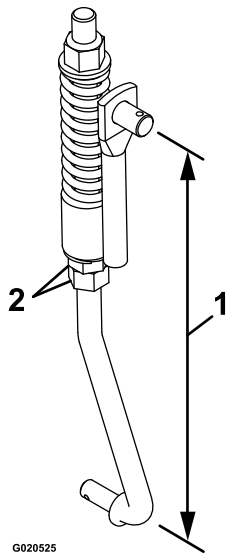

Figure 54
8. Adjust the linkage length with the 2 nuts at the bottom of the vertical spring assembly (Figure 54).